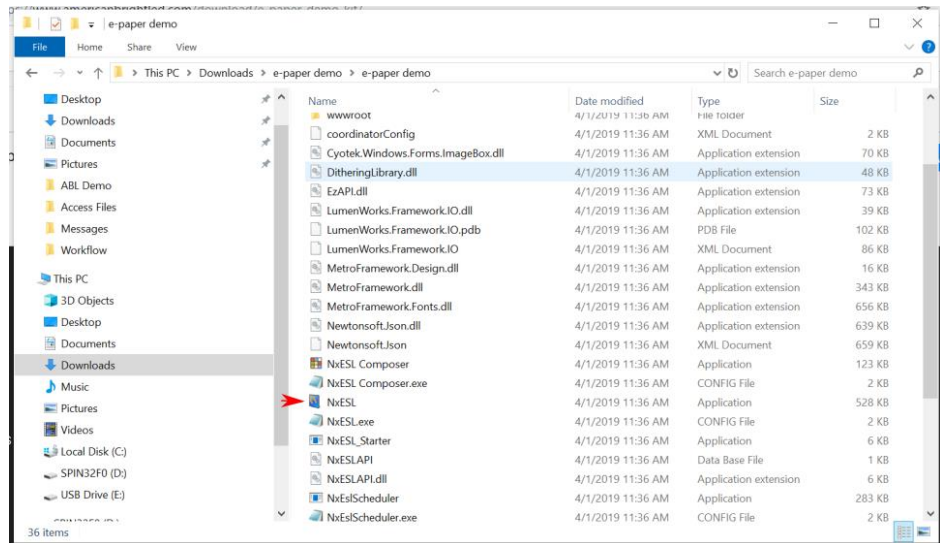

Fig. 4
3. In the unzipped e-paper demo folder, locate the NxESL application file and copy or pin a shortcut to the PC desktop or taskbar; then Launch the application. See Figure 4.